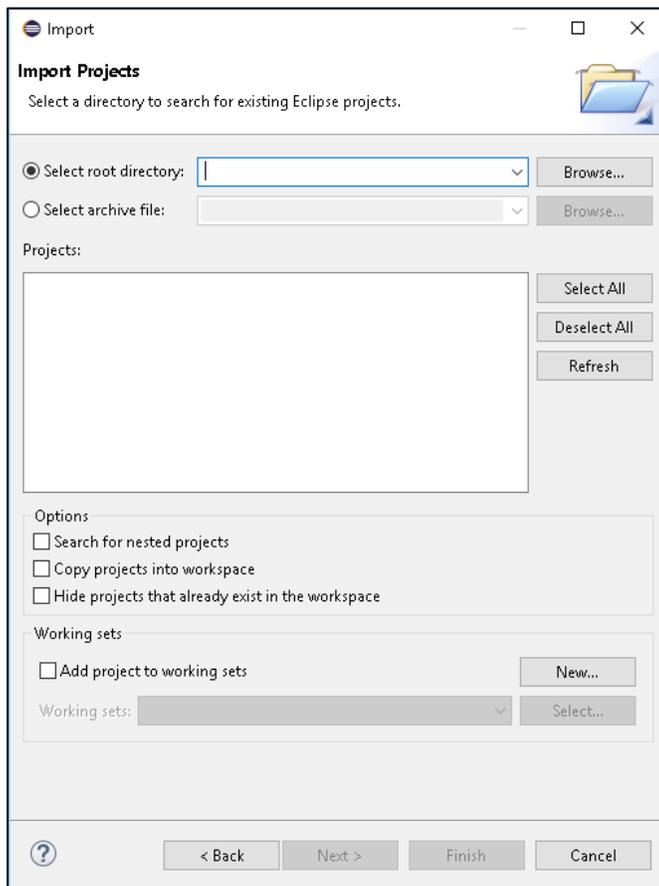

Figure 4. Import Projects dialog box.
3. Click **Next**. The **Import Projects** dialog box appears, as shown in **Figure 4**.